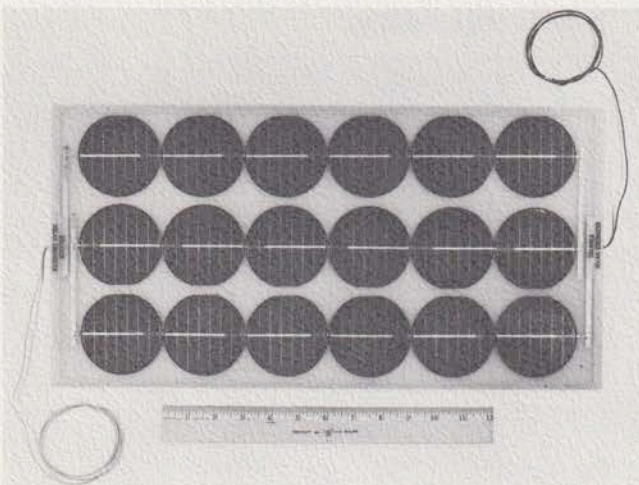

Fig. 6 Type 785 Unipanel
- 7 Volt Unipanel—all contain 18 solar cells connected in series (Fig. 6)